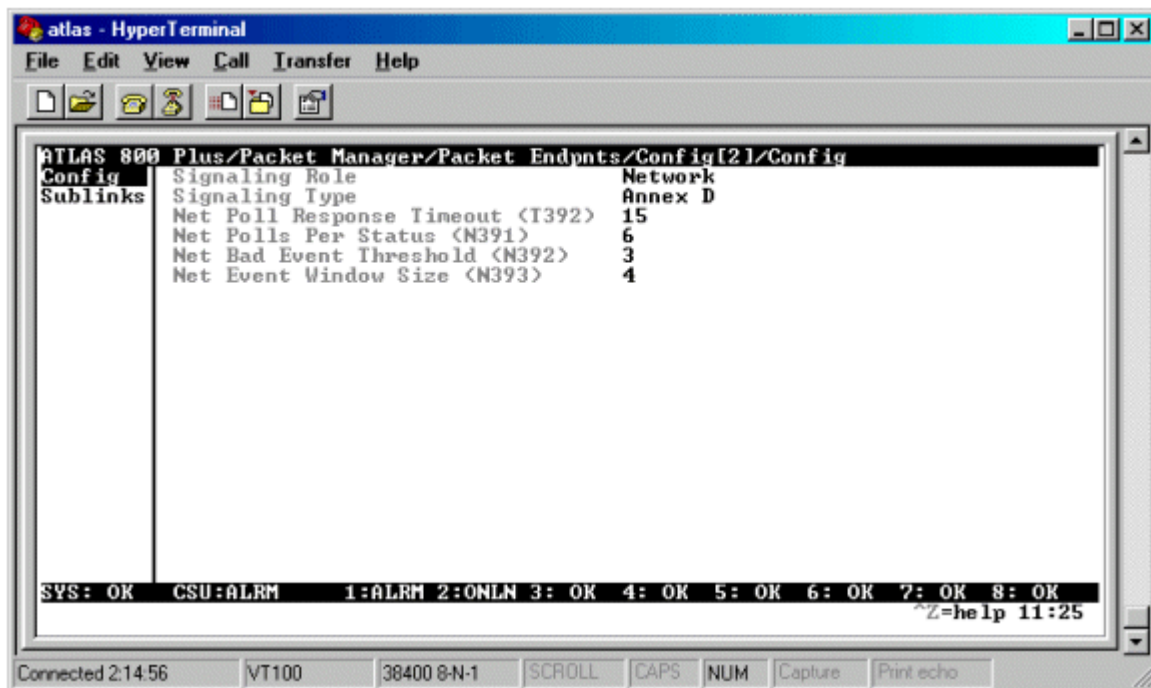

Figure 5
- Configure the V.35 Nx56/64 endpoint by pressing **ENTER** on **Config** for that endpoint and selecting **Network** for the **Signaling Role**. The **Signaling Type** should be set to match the signaling type of the router connected to the V.35 Nx56/64 interface. If this is not known, you may set this option to **Auto**. Figure 5 shows the configuration for the V.35 Nx56/64 interface.